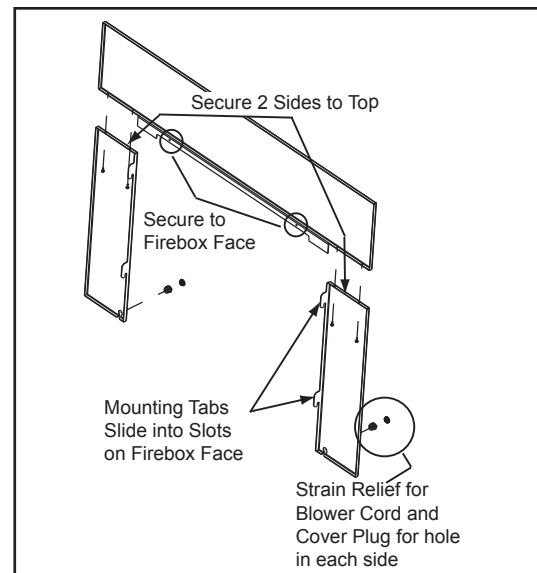

Figure 42.2
2. Using a 4 to 6 inches long Phillips head screw driver attach the side surrounds to the top surround using (2) #8 sheet metal screws on each side provided with the kit. **Figure 42.2.**
5. Slide the assembled trim set over the surround set. and then over the appliance matching the mounting tabs on the side pieces with the slots on the appliance. **Figure 42.2.**
6. Align the 2 screws in the top surround piece to the 2 alignment holes on the appliance top. Secure in place. **Figure 42.2.**